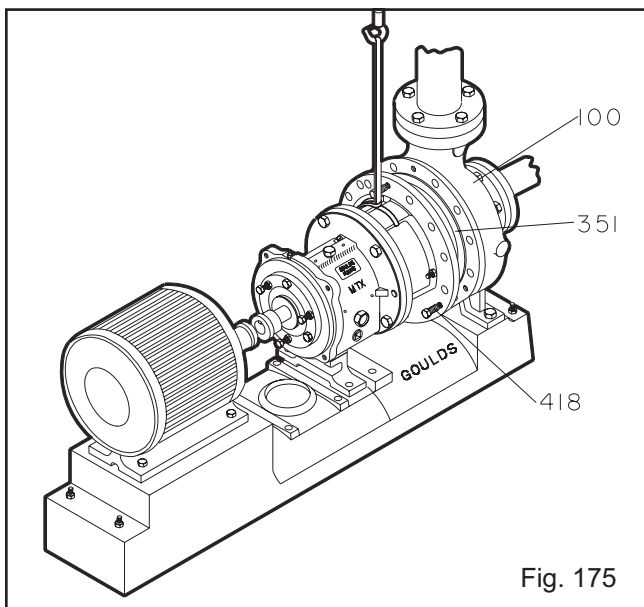

Fig. 175
3. Install back pull-out assembly in casing (Fig. 175, 176).